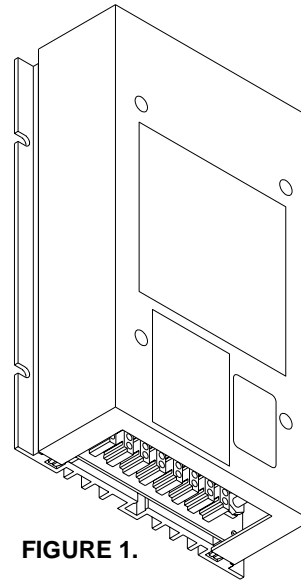

FIGURE 1.
- **The unit must be mounted with the cooling fins in the vertical plane for maximum heat dissipation (see figure 1). Because of the weight of the power wires, it is recommended keeping the two power input studs (see figure 5, page 3, and figure 7, page 4) on the bottom of the halogen flasher module.**